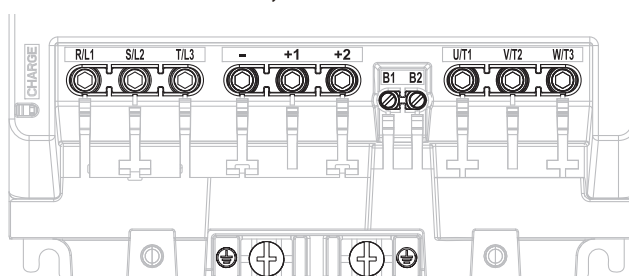

Figure 3 GA500 Main Circuit and Motor Circuit Terminal Layout by Model
- Refer to **Figure 3** for GA500 Main Circuit and Motor Circuit Terminal Layout by Model